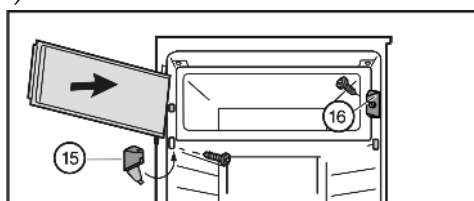

Fig. 7
- Fit closing element Fig. 7 (16).
- Fit turn hinge Fig. 7 (15) and fold the cover.